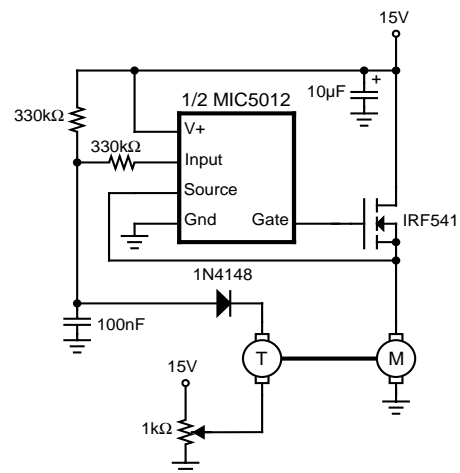

Figure 9. Electronic Governor
**Electronic Governor** (Figure 9). The output of an ac tachometer can be used to form a PWM loop to maintain the speed of a motor. The tachometer output is rectified, partially filtered, and fed back to the input of the MIC5012. When the motor is stalled there is no tachometer output, and MIC5012 input is pulled high delivering full power to the motor. If the motor spins fast enough, the tachometer output is sufficient to pull the MIC5012 input low, shutting the output off. Since the rectified waveform is only partially filtered, the input oscillates around its threshold causing the MIC5012 to switch on and off at the frequency of the tachometer signal. A PWM action results since the average dc voltage at the input decreases as the motor spins faster. The 1k $\Omega$  potentiometer is used to set the running speed of the motor. Loop gain (and speed regulation) is increased by increasing the value of the 100nF filter capacitor.